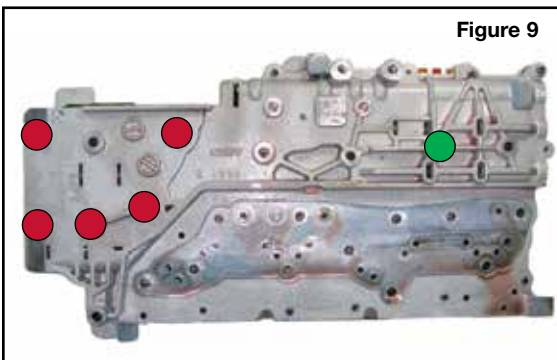

Figure 9
- Remove the five 7mm head bolts and single 10mm head bolt. The valve body halves may now be separated from each other (Figure 9).